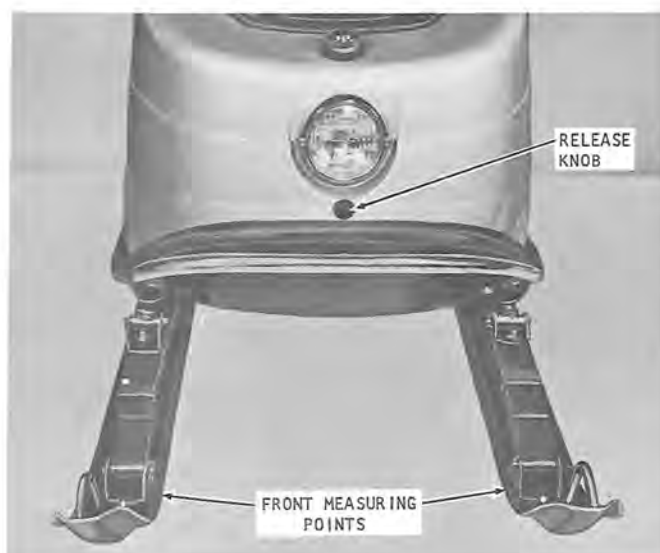

Figure 1
3. Release front-hood release knob (figure 1) and carefully lift hood assembly clear.